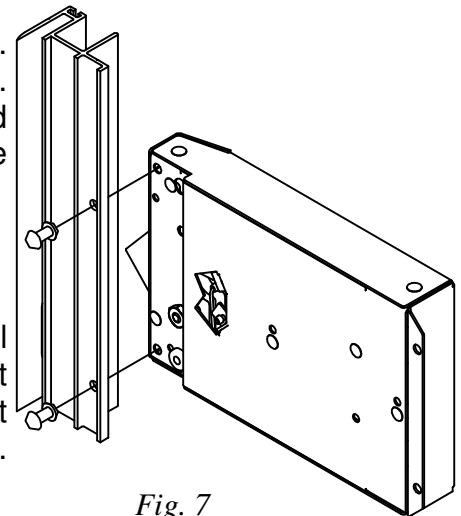

Fig. 7
- a) Mount the power lock to the track if not factory installed. The track will be pre-drilled and slotted for the power lock. Mount the lock using 3/16" pop rivets (Fig. 7). Recessed track will have mounting brackets for the power lock to be mounted to.